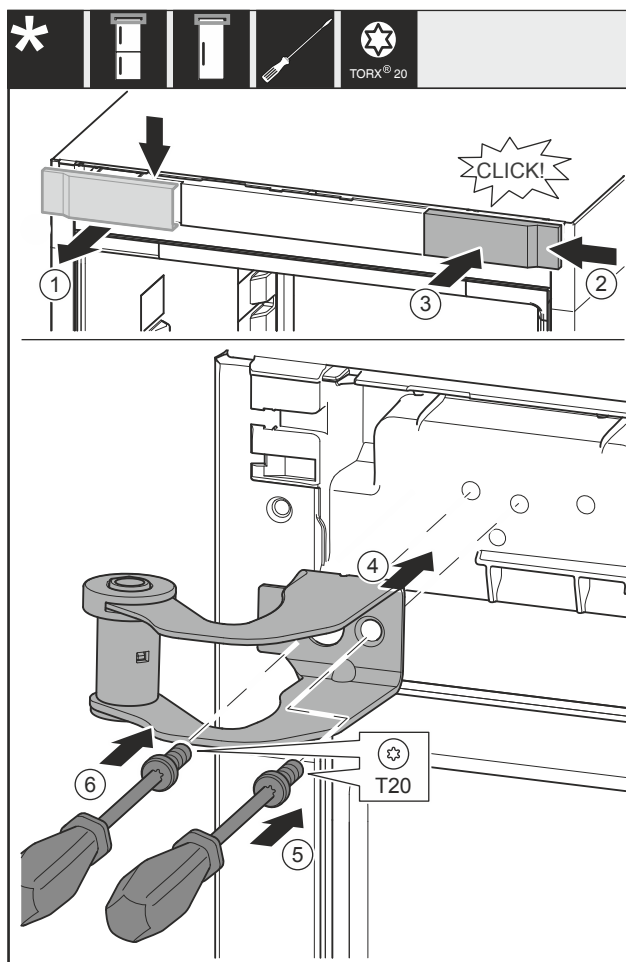

Fig. 15
- Remove the cover Fig. 15 (1) from above towards the front.
- Turn the cover Fig. 15 (2) by 180° and attach to the other side from the right.
- Engage the cover Fig. 15 (3).
- Place the top swap bearing block Fig. 15 (4).
- Screw the screw Fig. 15 (5) tight.
- Screw the screw Fig. 15 (6) tight.